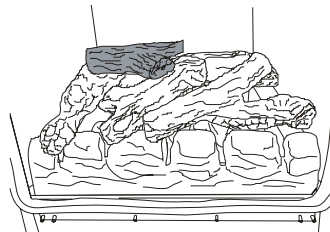

Figure 16
6. Finally place the **stubby 'Y' log** in the left hand rear corner (see **Figure 16**).
6. The clearance hole in the base casting can be seen in the Figure 16, (on page 18)